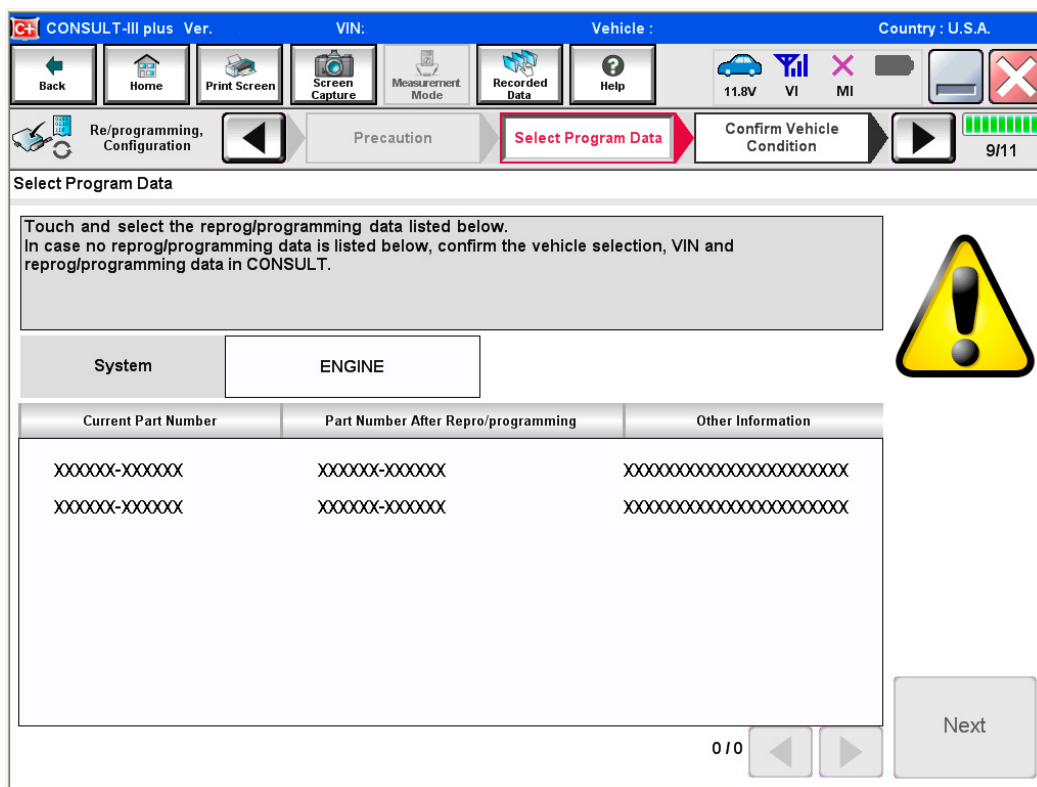

Figure 3
- If there is more than one new P/N, the screen in Figure 3 displays.